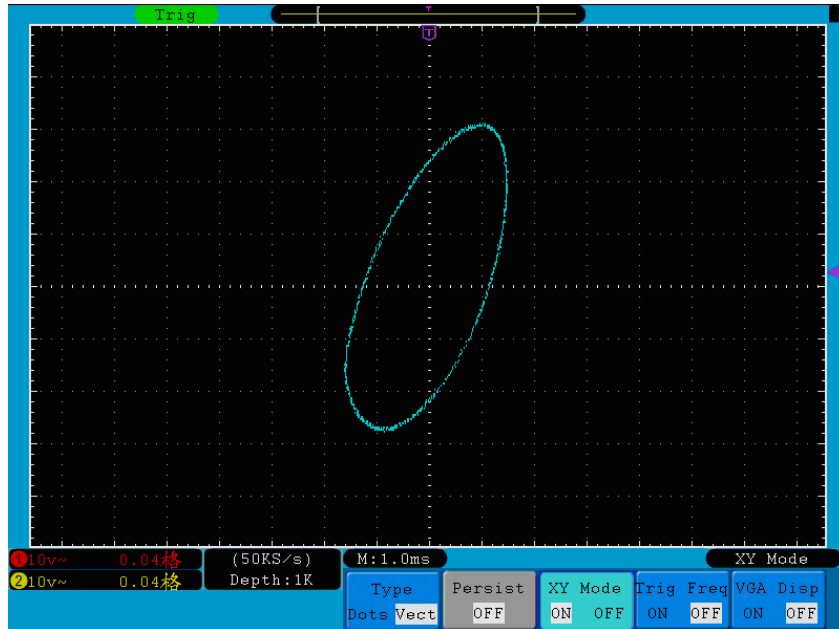

Figure 4-34 XY Display Mode
2. Press the **H3** menu selection button to set XY Mode **ON**. The display format is changed to be XY mode (see *Figure 4-34*).